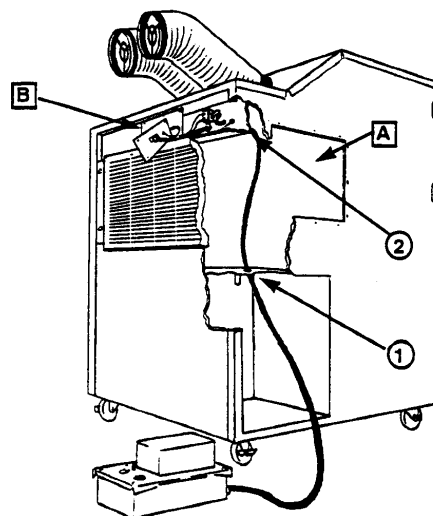

Figure 6 For XL24 thru XL60 models
7. (For the XL24, XL36 and XL60 models). This step should be completed by a certified electrician only. All XL models other than the XL11 and XL14 are prewired internally for a condensation pump. The pump does not have a plug and is wired directly to a terminal block provided behind the thermostat panel (See figure 6). To attach wires, remove the panels labeled A & B and feed the wires up through the hole (1) in the top plate of the water bottle housing. Then feed wires through the hole (2) in the back plate of the control box in the front of the unit. The terminal block should be located just above the hole, 4th from the right.